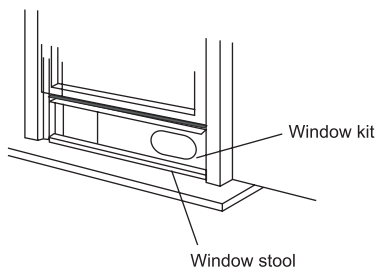

Fig.12
3. Cut the foam seal (adhesive type) to the proper length and attach it on the top of the window. See Fig.12